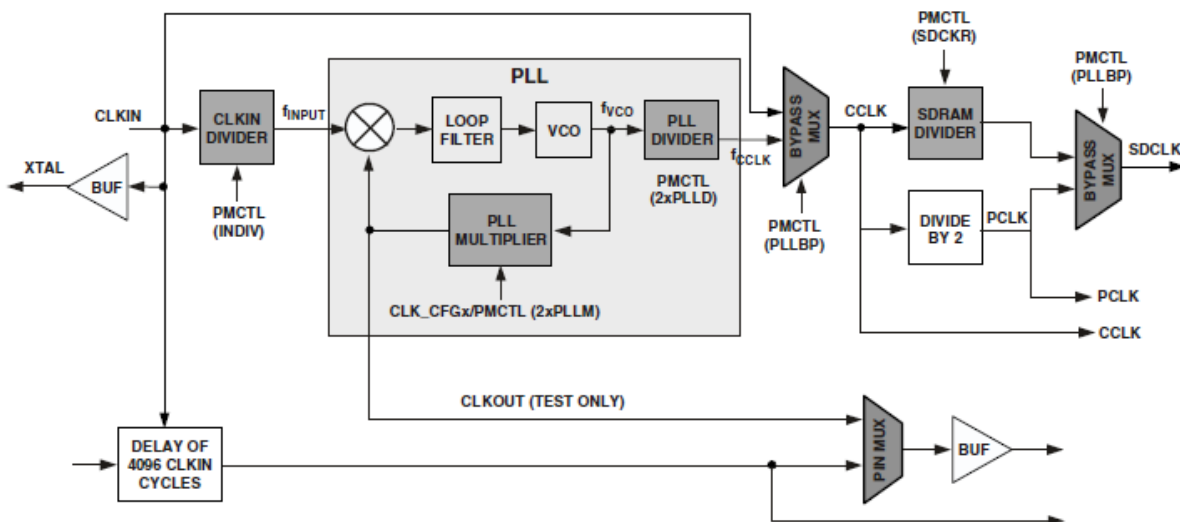

Figure 1. PLL block diagram for ADSP-21368 and ADSP-2137x processors
The PLL block diagram in Figure 1 shows an input divider, multiplier, and a divider for deriving the CCLK. Figure 1 shows the PLL block diagram for the ADSP-21367, ADSP-21368, ADSP-21369 (hereafter referred to as ADSP-21368 processors) and ADSP-2137x processors. The PLL block diagram for the ADSP-21362, ADSP-21363, ADSP-21364, ADSP-21365, ADSP-21366 (hereafter referred to as ADSP-21362 processors), and ADSP-2126x processors is functionally the same with the following differences:
- The SDRAM clock (SDCLK) shown in Figure 1 does not apply to ADSP-2126x and ADSP-21362 processors.